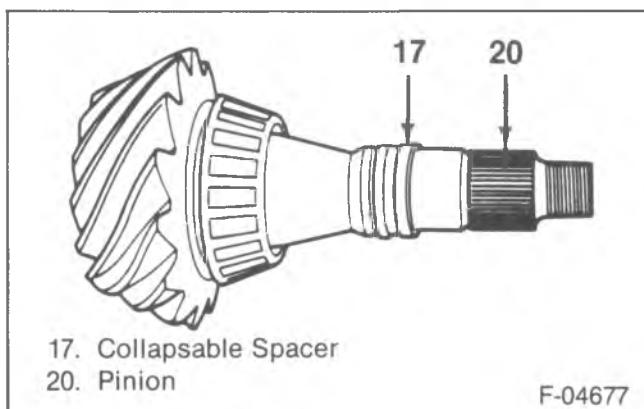
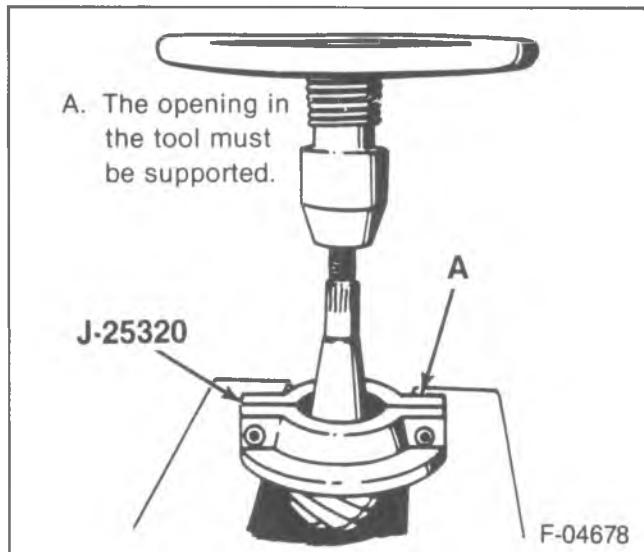

Figure 5—Pinion Collapsible Spacer
Figure 6—Removing the Pinion Rear Bearing
16. Pinion (20) from the axle housing.
- Replace the differential cover (34) with two bolts (35) to keep the pinion from falling to the floor.
- Remove the cover (34) and the pinion (20).
17. Collapsible spacer (17) from the pinion (figure 5).
18. Outer seal (14) and outer pinion bearing (15).
19. Inner bearing (18) and shim (19) from the pinion.
- Press the bearing off the pinion using J-25320 (figure 6).
20. Bearing cups (15) and (18) from the axle housing using a hammer and a punch in the slots provided for this purpose.